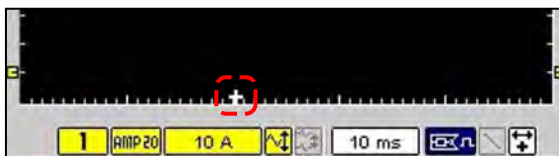

Figure 5-59 Sample Cyl Trigger Position marker
- If the Cyl trigger is selected, a white plus sign (+) displays along the bottom of the graph area which represents the point in time a cylinder is detected on the RPM lead (Figure 5-59).